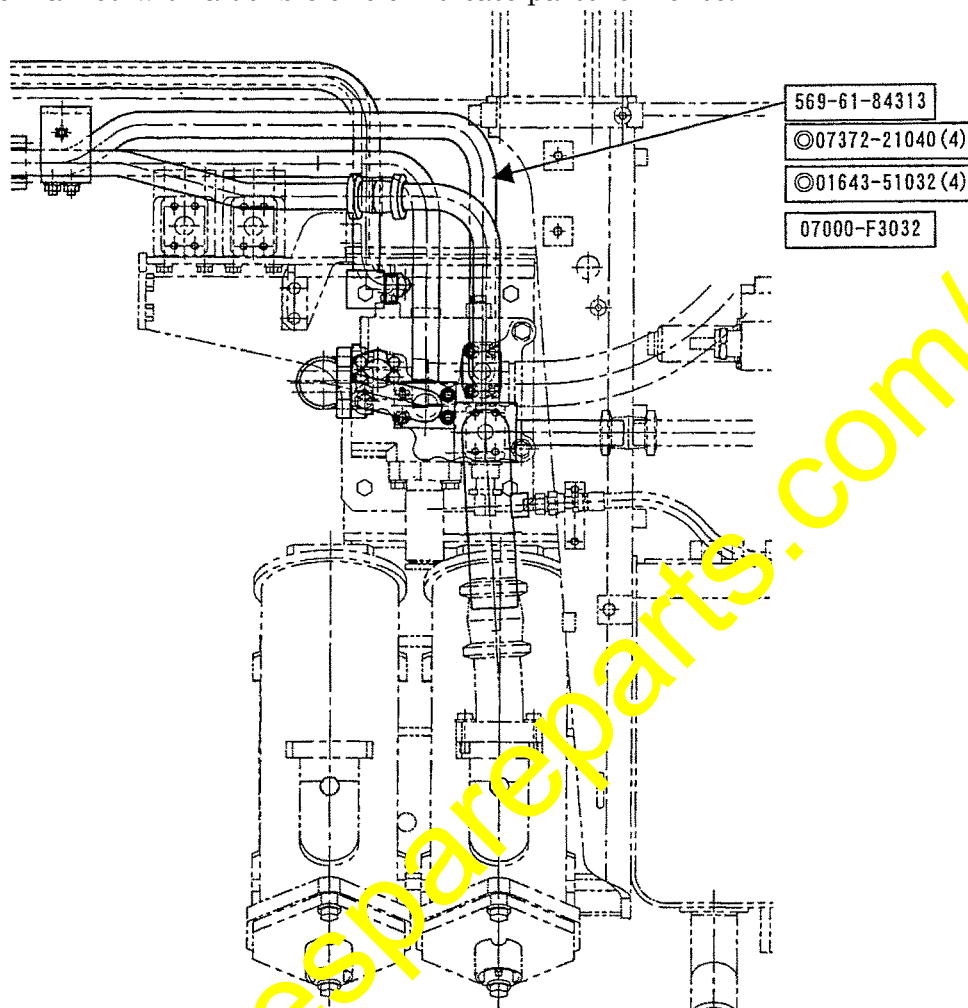

Fig. 5 Around Hydraulic Tank (Top View)
- ① Install the modified parts by referring to Fig.5 thru 7.